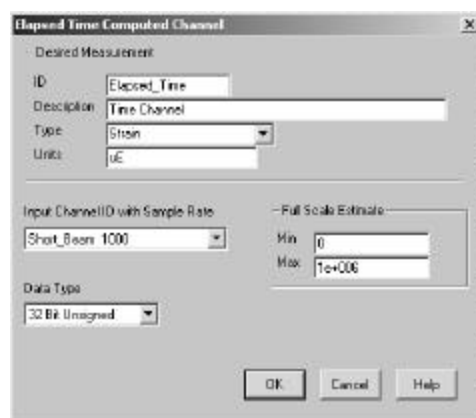

Figure 8-7: Elapsed Time Computed Channel Dialog Box
1. Select Time Channel at the Select Computed Channel Type dialog box. The Elapsed Time Computed Channel dialog box then opens. **Figure 8-7** shows it with example data.